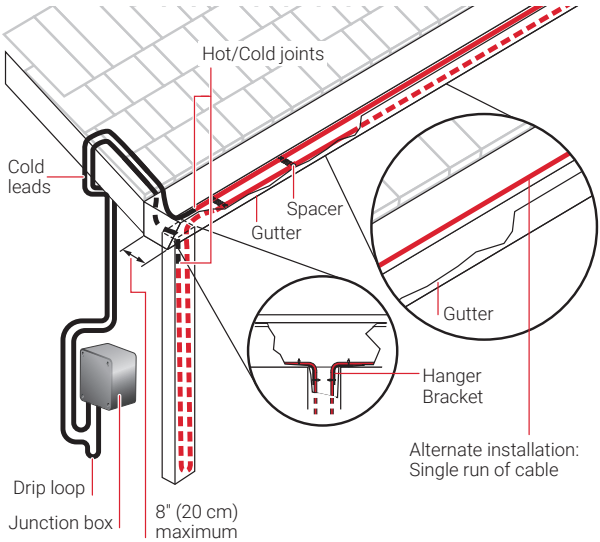
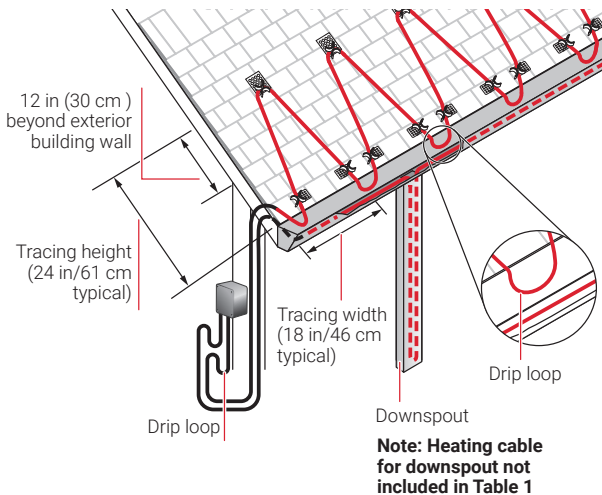

Figure 9: Gutters and downspouts
Figure 10: Layout for sloped roof - non-standing seam
3. Install one or two passes of heating cable in the gutter as per the design requirements (Figure 9 shows a double run of cable); if also installing the heating cable along the edge of a non-standing seam roof as in Figure 10, it will only be possible to install one run of cable in the gutter. It is not necessary to attach the heating cable to the gutters. If attachment is required, use 2 in (50 mm) wide adhesive metal foil tape to secure the cable to the bottom of the gutter.
For sloped roofs, ice dams may form at the roof edge. To maintain a continuous path for melt water runoff, route the heating cable in a serpentine pattern as shown in Figure 10. Additional heating cable may be needed for downspouts and valleys.
- Run heating cable up the roof, at the required angle, until it is at least 12 in (30 cm) past the exterior building wall and into the heated area below the roof (Figure 10). Handle heating cable carefully to avoid damaging the cable. Secure cable in place using roof clips available from the manufacturer. Table 1 shows the heating cable required per foot of roof edge for several common “Tracing heights” and includes one run along the gutter and a 3 in (7.5 cm) drip loop into the gutter every 18 in (46 cm).
- Continue installing the cable in a serpentine (zigzag) pattern, maintaining 18 in (46 cm) spacing between zigzags. Ensure that the bottom drip loop of the heating cable extends (overhangs) into the gutter as shown in Figure 10. This provides a continuous path for melt water to flow from the roof into the gutters.
- Install a single run of cable back along the gutter with a loop into each downspout as shown in Figure 10 (gutters wider than 6 in (15 cm) may require 2 or more runs of heating cable). The loop should extend all of the way down to the bottom of the downspouts. It is not necessary to attach the heating cable to the gutters. If attachment is required, use 2 in (5 cm) wide adhesive metal foil tape to secure the cable to the bottom of the gutter.